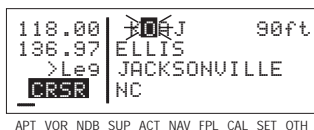

Figure 3-66
4. Use the right outer knob to move the cursor to the second character and select an "O" (figure 3-66).